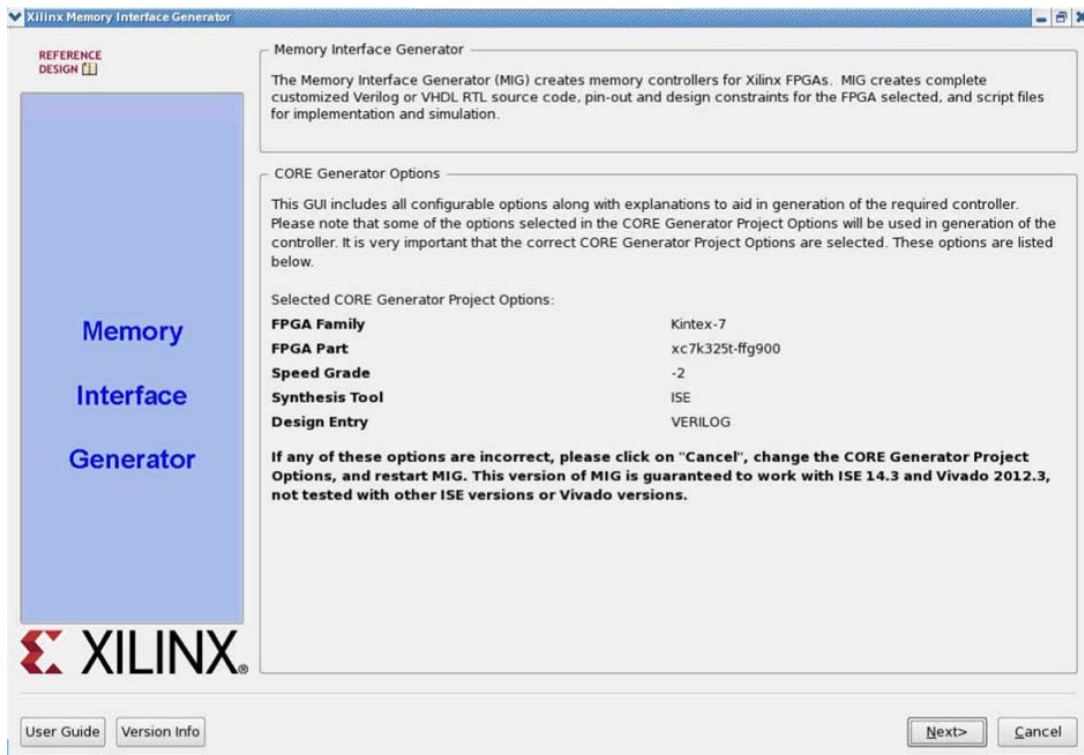

Figure 3-13: 7 Series FPGAs Memory Interface Generator FPGA Front Page
13. Select **MIG 7 Series** to open the MIG tool (Figure 3-13).